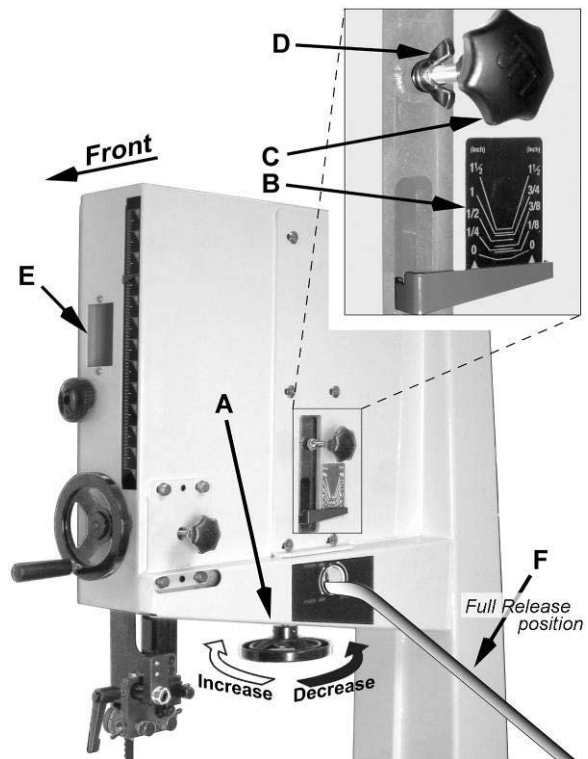
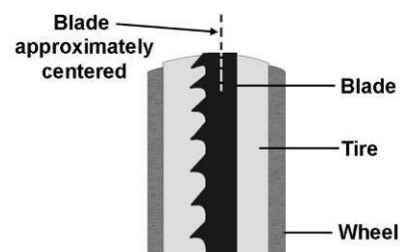

Figure 19
Figure 20
Blade tension is set with the *blade tension handwheel* (A, Fig. 19) and is performed following blade replacement and periodically as the blade stretches from use.
Referring to Figure 19:
2. Set the blade tension by rotating the *handwheel* (A) according to the *arrow directions* shown in Figure 19.
1. Open upper front door to expose the wheel. Rotate the wheel clockwise by hand and observe the position of the blade through the window (E, Fig. 19). The blade should ride upon the center of the wheel as shown in Figure 20.
2. If the blade tends to move toward the edge of the wheel, loosen the *wing nut* (D, Fig. 19) and slightly rotate the *knob* (C, Fig. 19). Rotating the knob clockwise will cause the blade to move toward the rear edge of the wheel. Rotating the knob counterclockwise will cause the blade to move toward the front edge of the wheel.
3. When the blade is tracking properly in the center of the wheel, re-tighten the *wing nut* (D, Fig. 19).